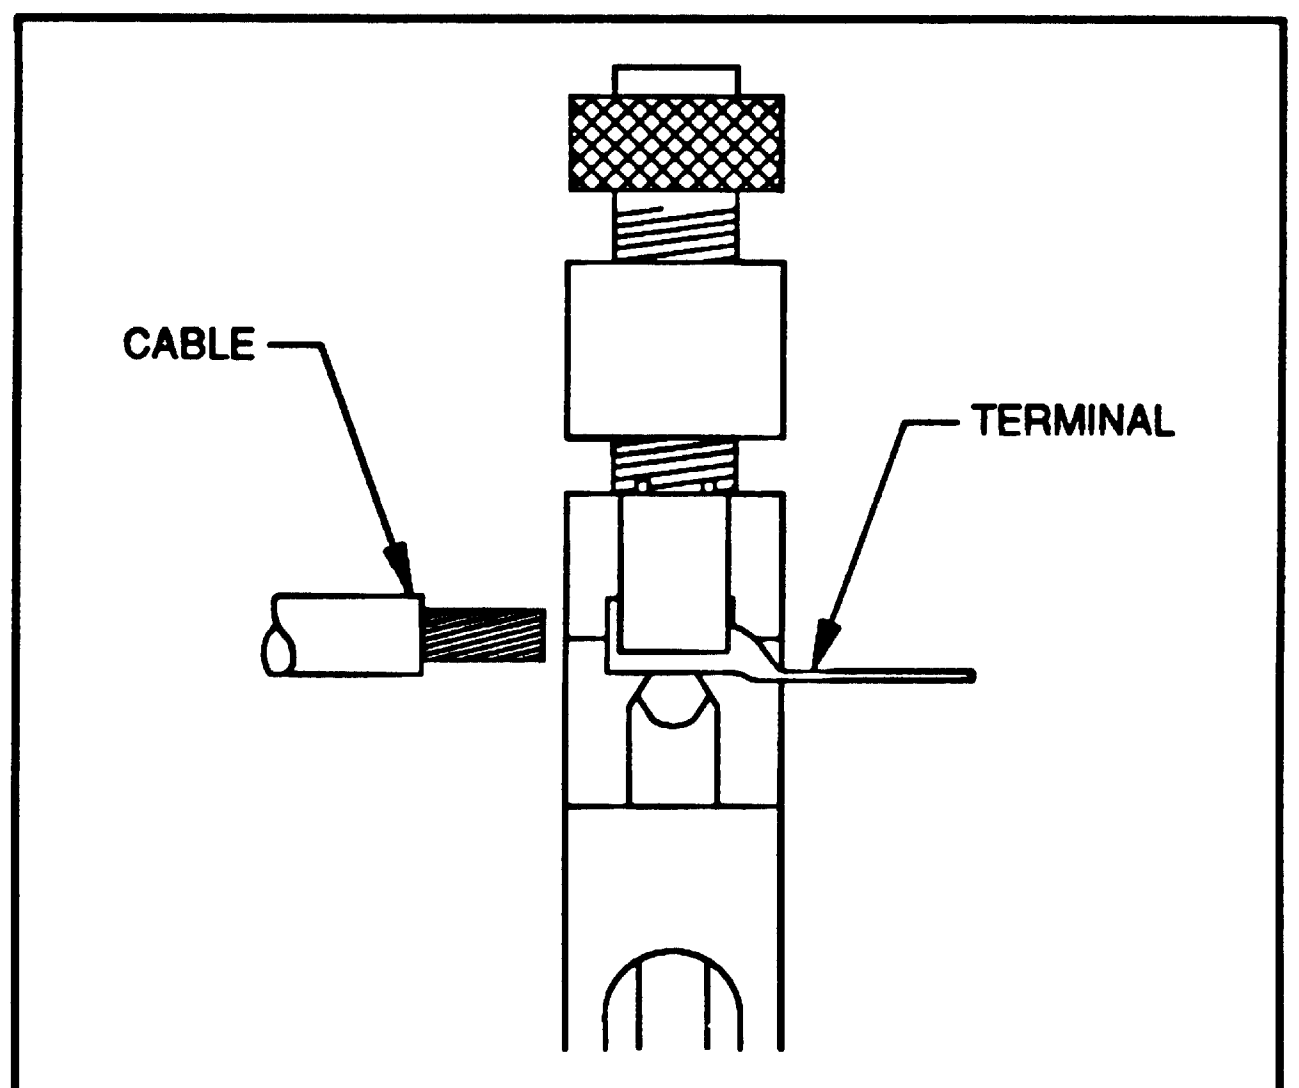

FIGURE 3
6. Position terminal in nest opening as shown in Figure 3. Close handle sufficiently to hold terminal in place. Do not deform terminal.